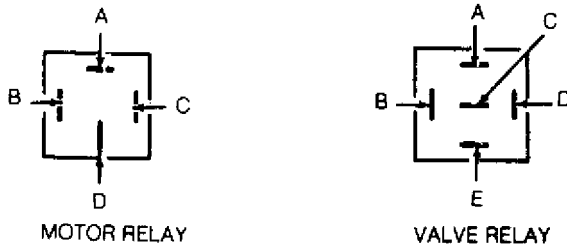

Fig. 4: Identifying Motor & Valve Relay Terminals
1) Disconnect negative battery cable. Remove motor relay from hydraulic unit. Ensure continuity exists between terminals "B" and "C" of motor relay. See Fig. 4. Connect 12 volts to terminal "C", and
1) Disconnect negative battery cable. Remove valve relay from hydraulic unit. Using a DVOM, check continuity between valve relay terminals "C" and "E", and between terminals "B" and "D". See Fig. 4.